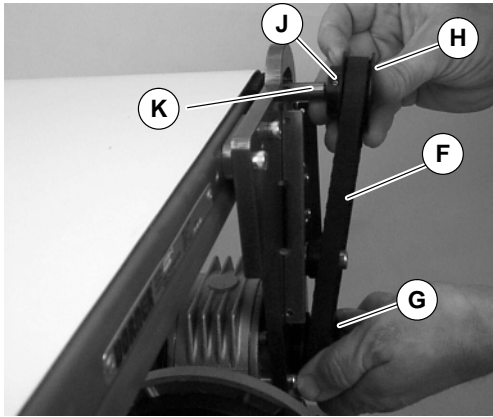

Figure 4
NOTE: If timing belt does not slide over pulley flange, loosen driven pulley set screws (J of Figure 4) and remove pulley (H) with belt (F). For re-installation, see steps 4 and 5 on page 2.
4. Wrap timing belt (F of Figure 4) around driven pulley (H) and drive pulley (G). If necessary, install driven pulley (K) onto conveyor shaft.